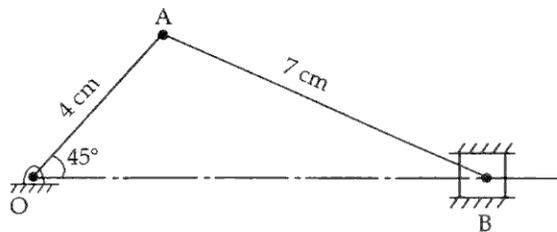

Figure 2
- (e) Determine all the centres of the slider crank mechanism shown in figure 2 and find the angular velocity of connecting rod and the velocity of piston. Angular speed of link OA is ω_2 rad/sec. (clockwise).